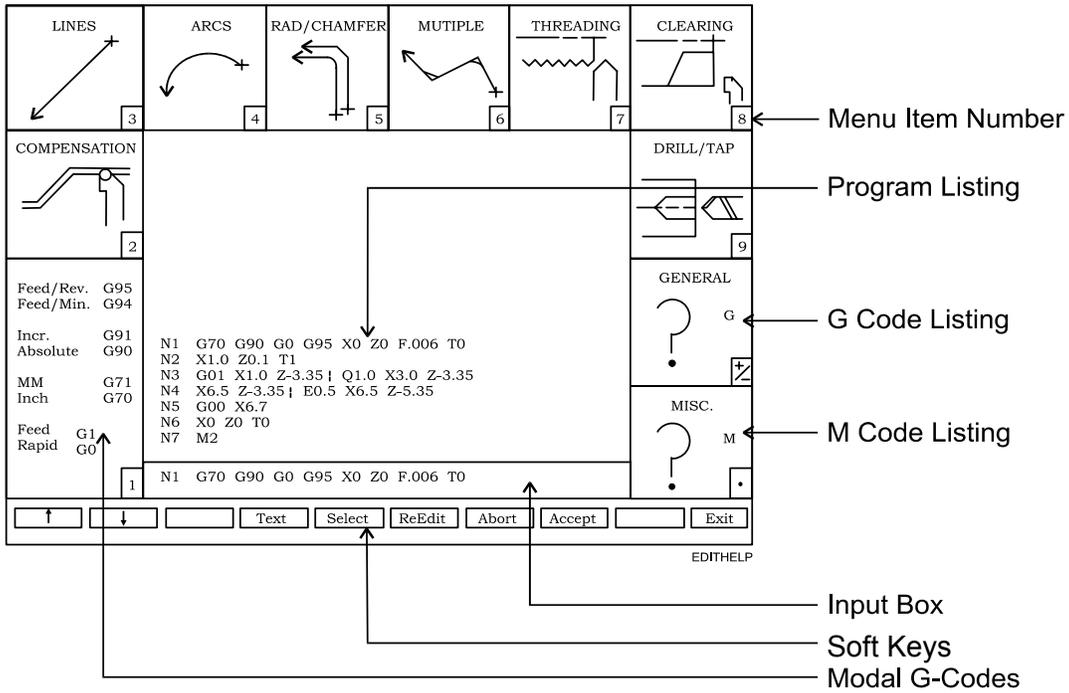

Figure 7-2, Main Edit Help Menu
1. In Edit Mode, open the appropriate program. Press **Help (F1)**. The Main Edit Help Menu activates. Refer to Figure 7-2, Main Edit Help Menu.
The Main Edit Help Menu \(Figure 7-2\) displays categories for which Help Menus are available. Refer to Table 7-2, Edit Help Menu Features for a description of Main Edit Help Menu features.